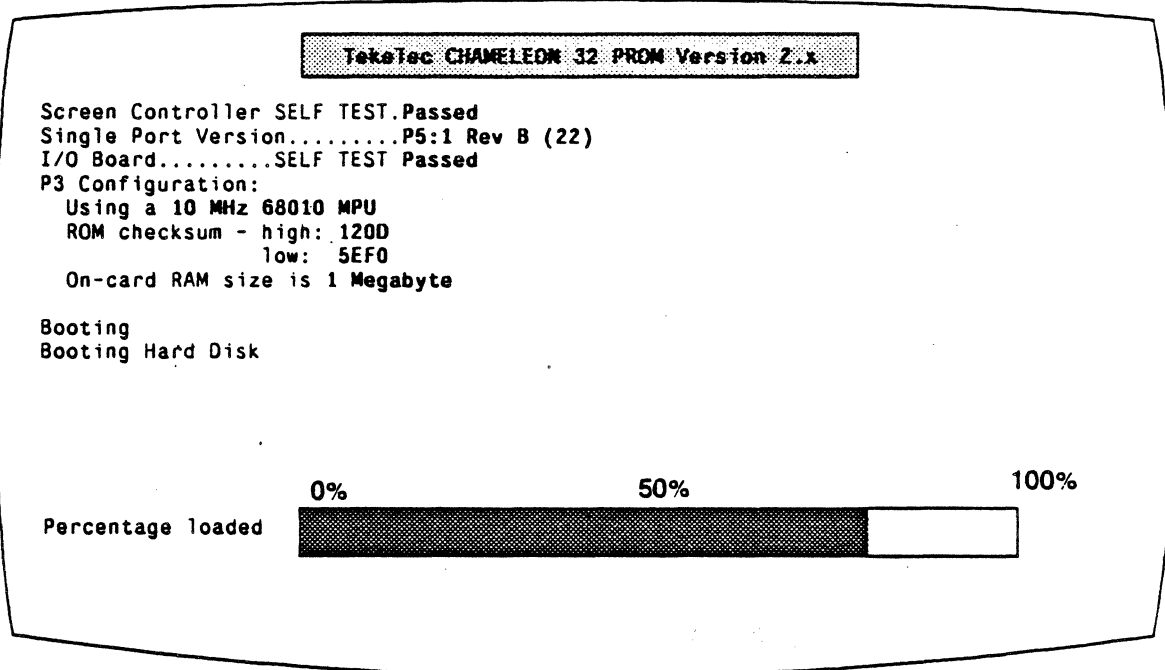

Figure 1.4: Power Up Screen
10. To boot the system software, you do not need to do anything. The system automatically boots when the Percentage Loaded bar graph reaches 100% (Figure 1.4).